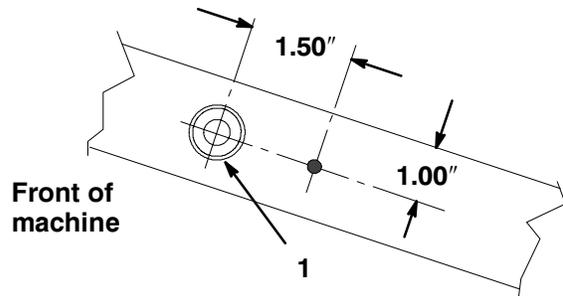

Figure 4
1. Measure 1.50 inches rearward from center of reel motor storage tube (Fig. 4). Mark and drill a .281" diameter hole through one wall of frame tube.